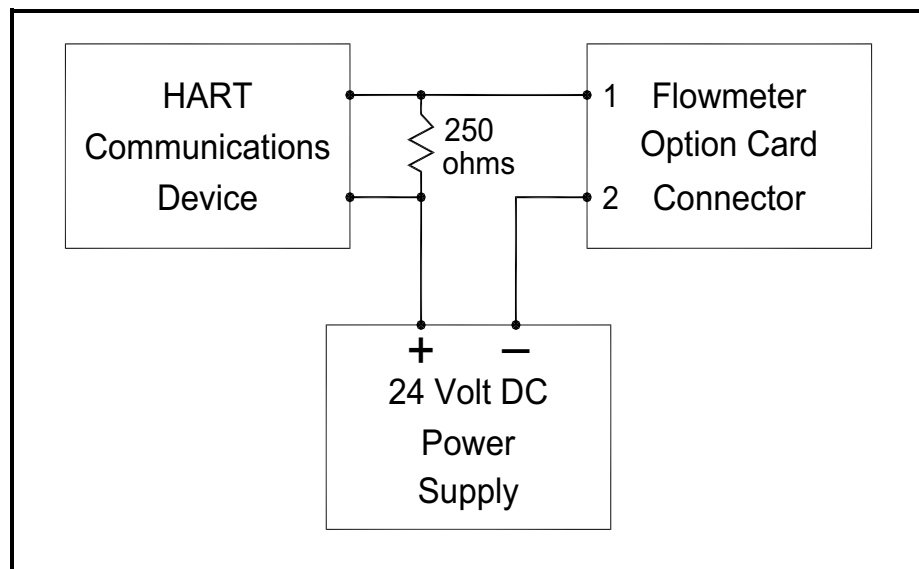

Figure 52: Option Card Wiring
3. Interconnect the HART option card and the HART device as shown in Figure 52.